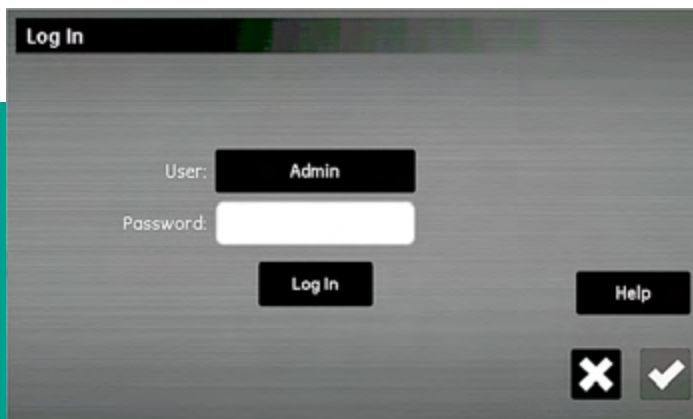

Figure 70: Log in screen
Only the **admin** can add, modify, or remove the other user accounts. To log in as the **admin**, select **configuration > user management** to open a *log in* screen similar to *figure 70* below.
1. From the *configuration menu* screen (see *figure 52* on page 59), tap the **user management** button to open the *log in* screen (see *figure 70* on page 79).